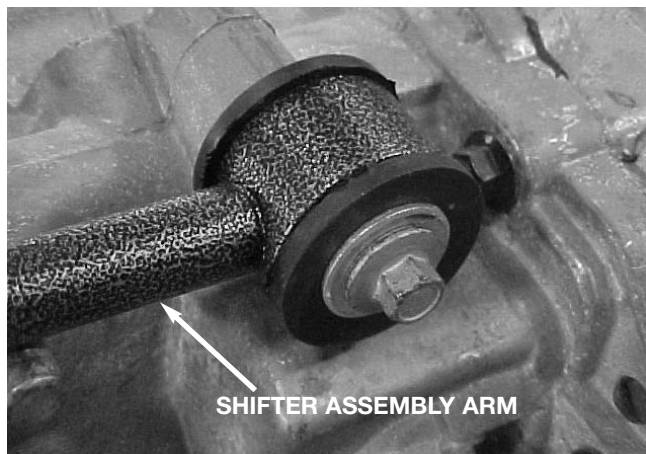

Figure 3
- Using a 10mm wrench, remove the front bolt that secures the shifter assembly arm to the transmission and set aside (see fig.3).
- Place Hurst shifter assembly on workbench. Insert the two (2) metal-flanged sleeves into the urethane bushings located in the Hurst shifter assembly arm, and replace the metal bracket onto the rear urethane mount. Insert the two (2) plastic linkage rod bushings into the shifter stick bottom. Lightly lubricate as needed.
- From underneath the car, attach front shifter arm to the transmission. Lightly lubricate threads and replace hex bolt previously removed but do not tighten (see fig.3).